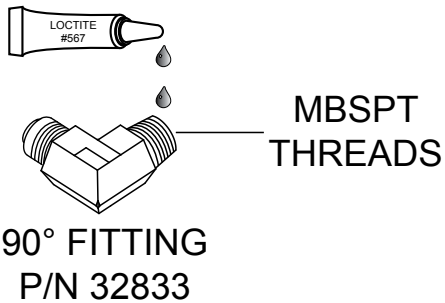

Figure 22. Applying Loctite® 567™ (90° Fitting)
18. Apply Loctite® 567™ to the MBSPT threads (Figure 22) on the 90° fitting (P/N 32833).